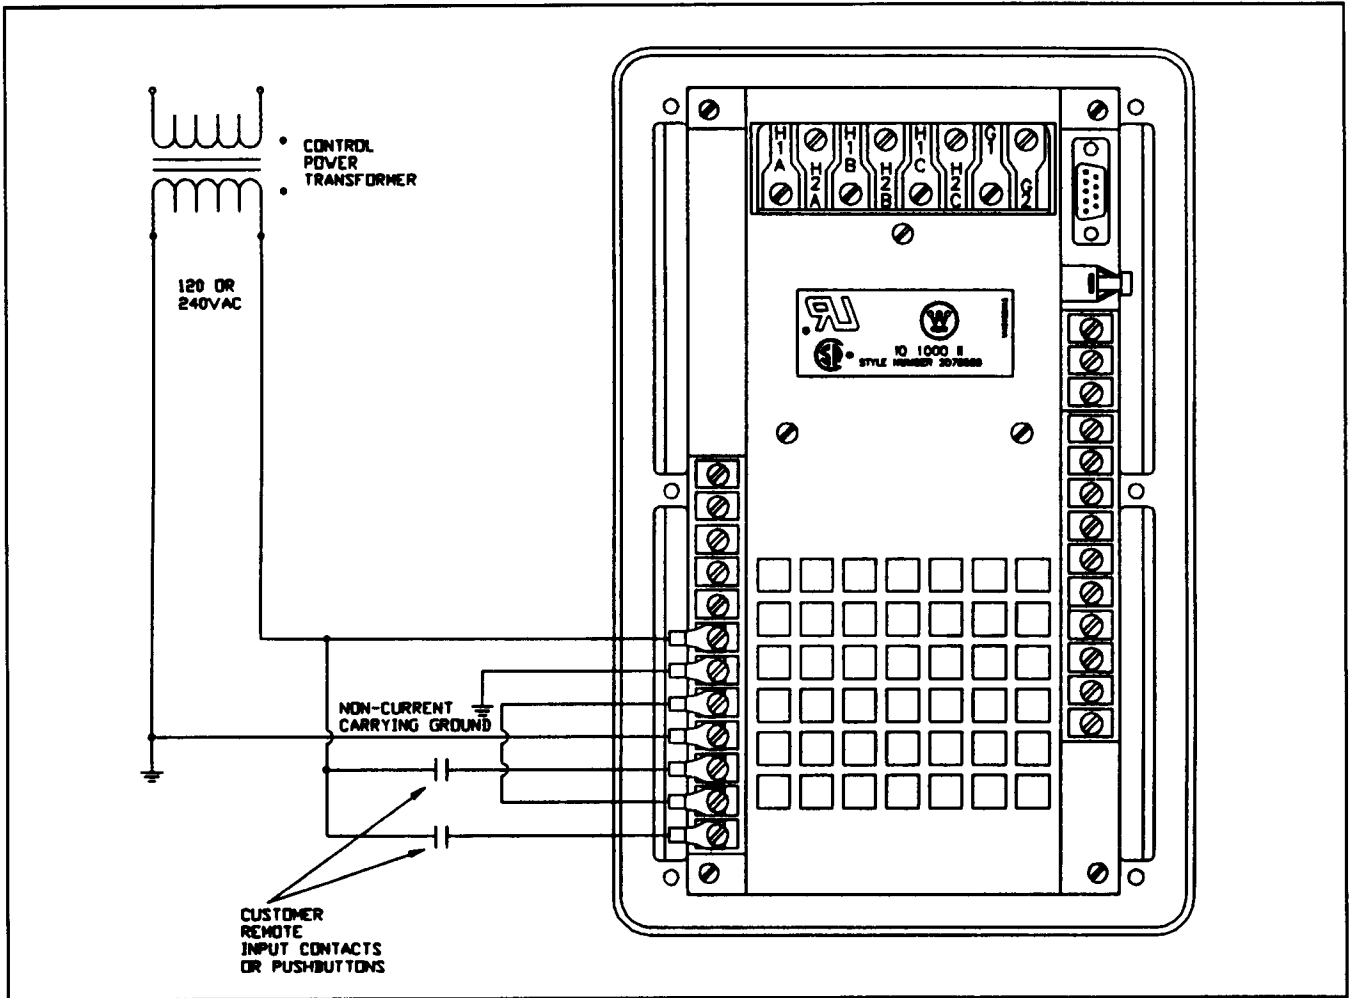

Figure 5.11 — IQ-1000 II Remote Input Wiring for 120 or 240 VAC Control Power
- The IQ-1000 II accepts either 120 or 240 VAC inputs for control power or remote inputs (see Figure 5.11). All input relays are rated for 120 or 240 VAC with the exception of the Incomplete Sequence and Remote Trip/Reset terminals, which are rated for 120 VAC ONLY.